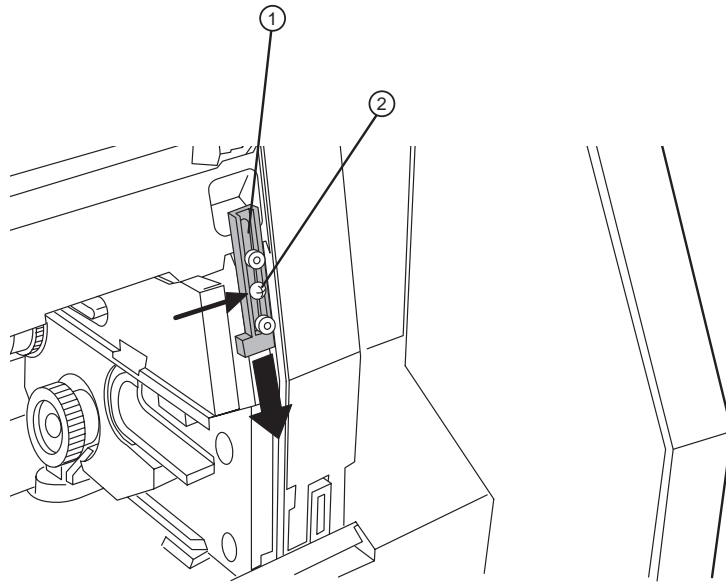

Figure 1-14 Preparing the media transport retainer bracket.
①—Transport retainer bracket. ②—Two bracket hex screws. ③—Supply tray.
8. Locate the two upper media transport Retainer Brackets (gray) in the upper right and left of the exposed unit. Refer to Figure 1-14. Remove the shipping screw at the center of the bracket.